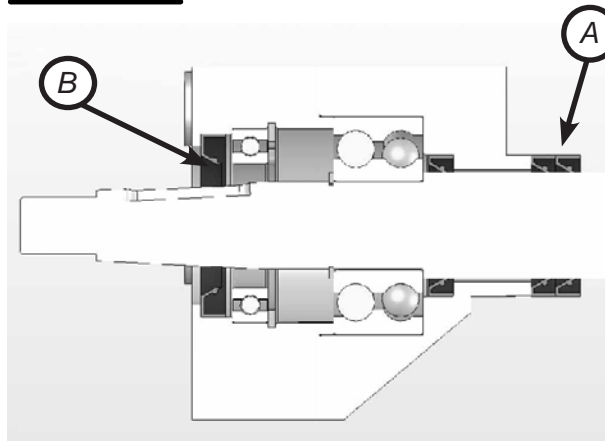

Figure 2.1.2.1-2
Install a shaft seal in the bearing housing. The orientation of this seal is also important, as a seal that is installed correctly stops grease from going into the engine room. The lip must point at the installer. See figure 2.1.2.1-2 (B).